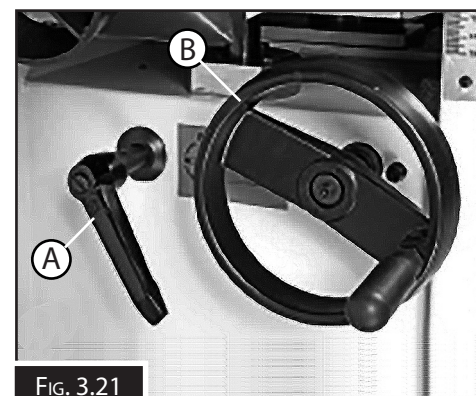
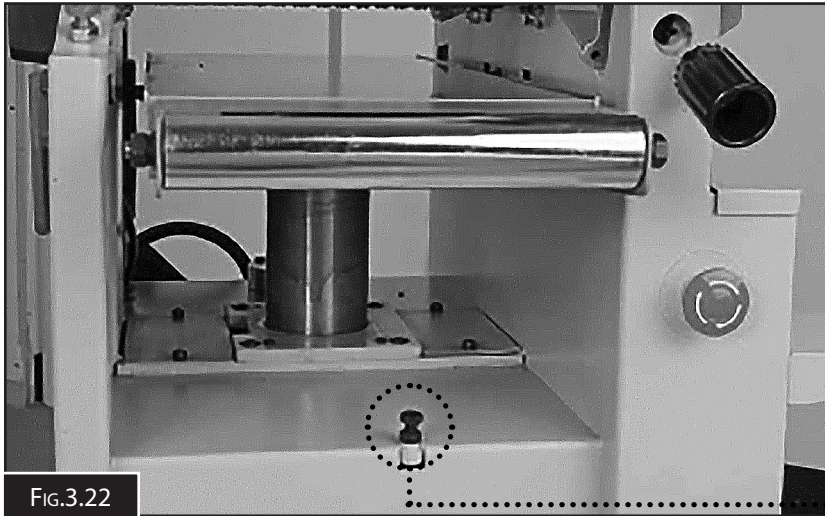

FIG. 3.21
FIG.3.22
2. Release the rise and fall clamping handle ("A" in Fig.3.21) and turn the operating wheel ("B" in Fig.3.21) counter clockwise to lower the thicknessing table until the pointer reads 190 on the PT-254S scale or 225 on the PT-305S and check that the stop is up against the underside of the thicknessing table. If not, loosen the locking nut and adjust the stop then re-tighten the nut to lock the setting. (Fig.3.22)